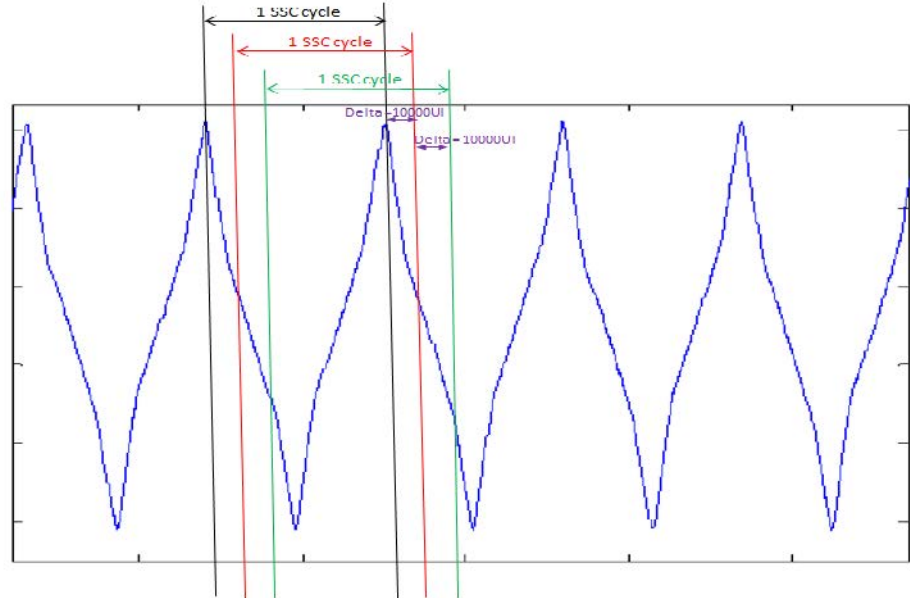

Figure 140 Measurement of UI\_MEAN over at least 10 SSC Cycles
- 4 Measure UI\_MEAN over different windows that uniformly cover the Oscilloscope capture for at least 300ms (more than 10 SSC Cycles) with 10000 UI window jumps. See Figure 140.